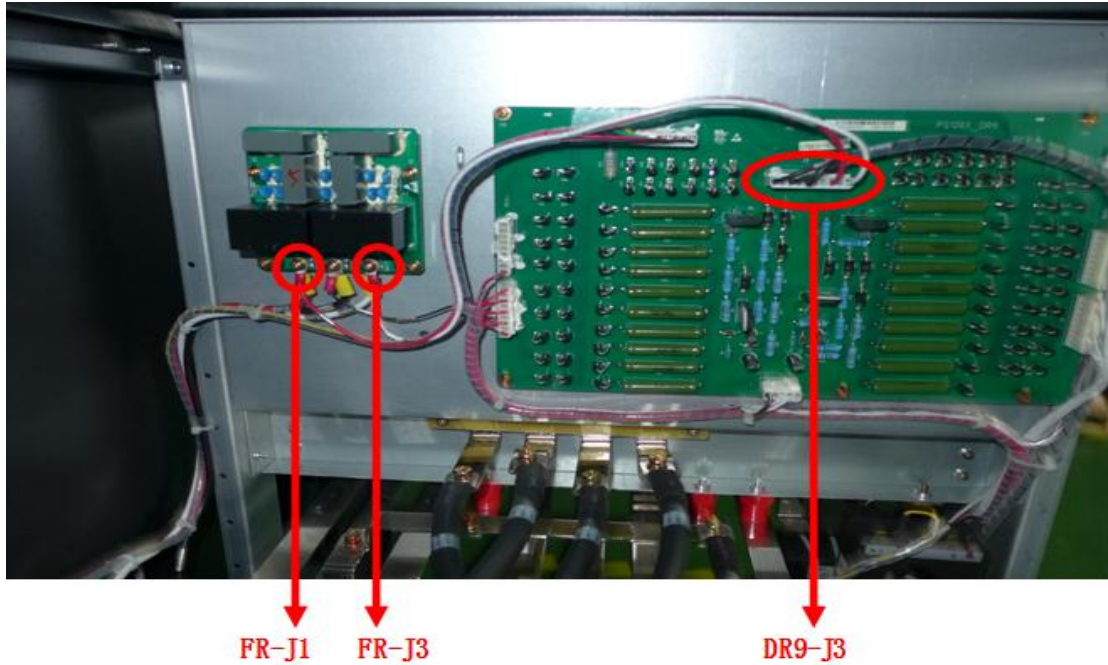

Figure 8 FR-J1 and FR-J3 cables
5. Install the bypass voltage detection cables on the battery cold start board, connect DR9-J3 terminal (Battery cold start board) to FR-J1 (Red cable) and FR-J3 (White cable), as is shown in figure 8.